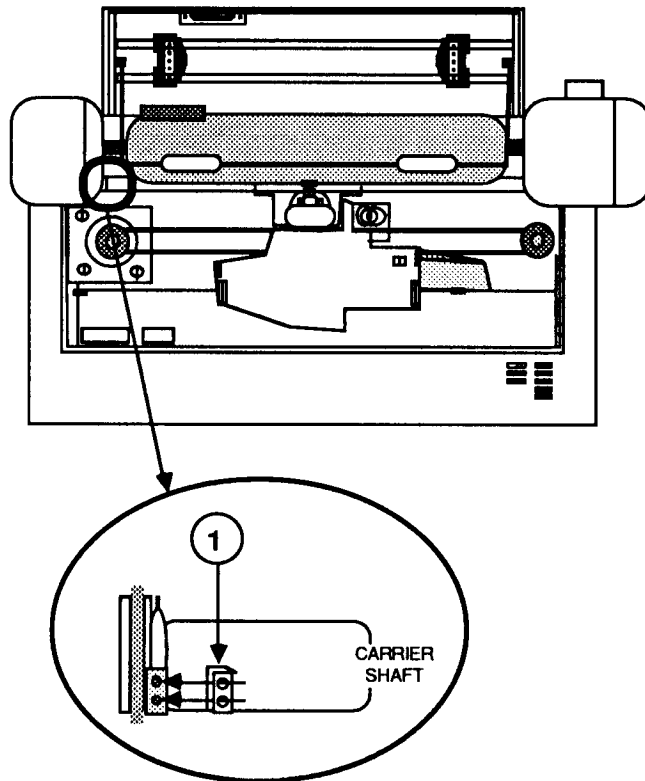

FIGURE 4
2. Push the carrier shaft toward the rear of the machine. Using needlenose pliers, install the shim on the left side of the carrier bar by inserting the two protruding tabs into the holes on the shim (Figure 4, #1). Slide the shim into position. Release the carrier shaft.
1. Look at the left side of the carrier shaft. (Figure 4, #1).